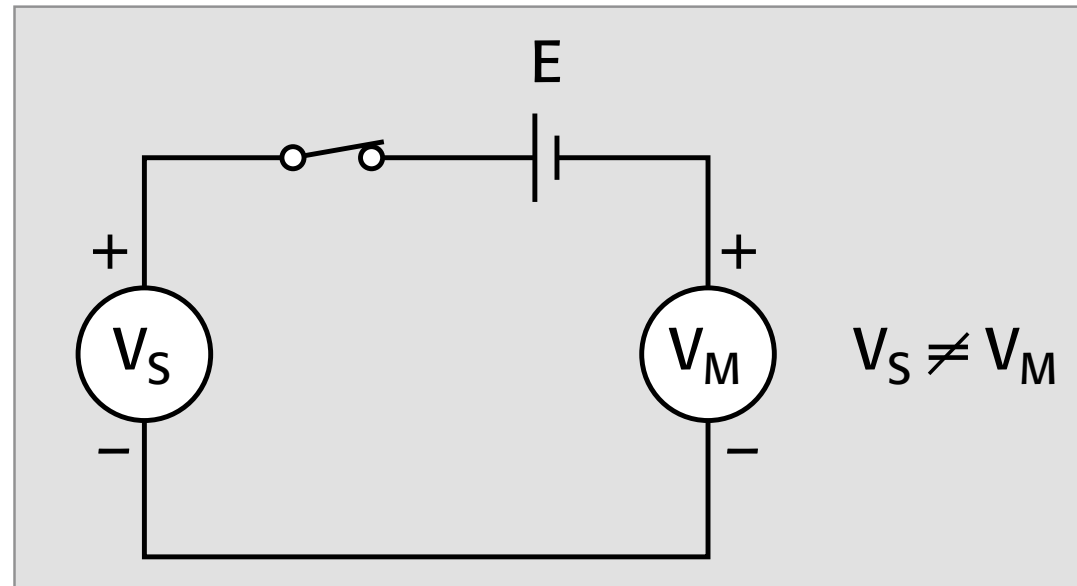

Figure 4a. Potential in loop is added to measurement
As shown in **Figure 4a**, the offset voltage (E) of a single *pole* relay is added into the circuit. As a result, the measured voltage (V_M) will be the sum of the source voltage (V_S) and the offset voltage (E). To minimize this offset voltage, a low voltage switch card uses a two-pole relay, as shown in **Figure 4b**. Here, the offset voltage (E_{T1}) in the circuit HI is largely canceled by the offset voltage (E_{T2}) in circuit LO. The contact potential of some low voltage cards is specified with the card used as a two-pole switch to take advantage of this cancellation. It may be specified as “per contact pair.” However, total cancellation cannot be achieved because temperature differences will cause E_{T1} and E_{T2} to be slightly different.